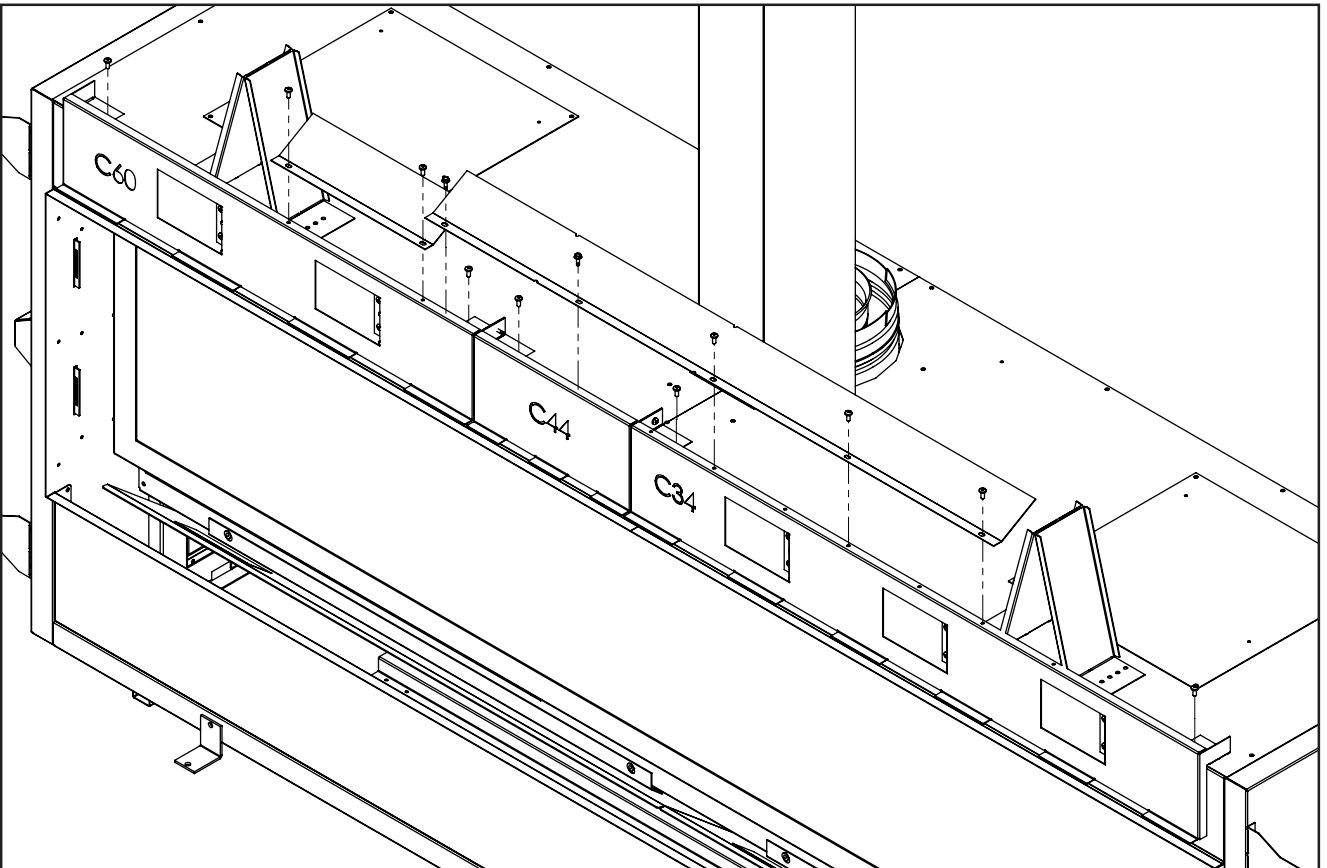

Figure 20. Combustible Facing Kit C72
**Step 7:** Attach your deflector to your panel configuration as shown below. Attach the extension deflector if installing a C72, shown in Figure 20.